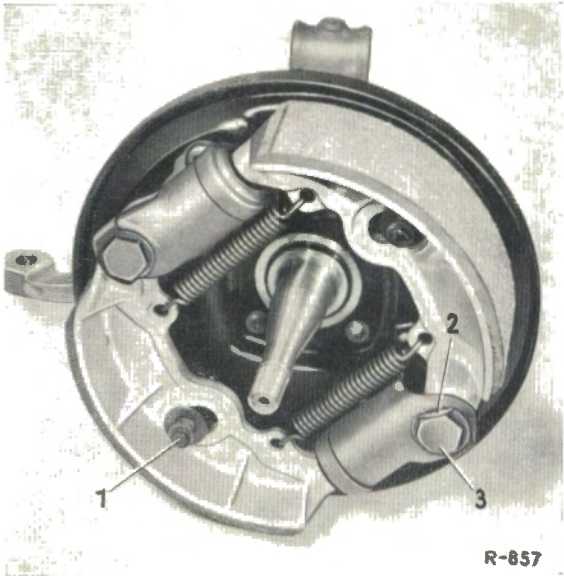

Fig. 42-8/2
4. Screw out the stop screw (2) (Fig. 42-8/3).
Note: Since in the 2nd version of the brake shoe suspension the anchor pin stop (5) is located in the wheel brake cylinder, it is not necessary to screw out the hexagon screw (2) (Fig. 42-8/4).